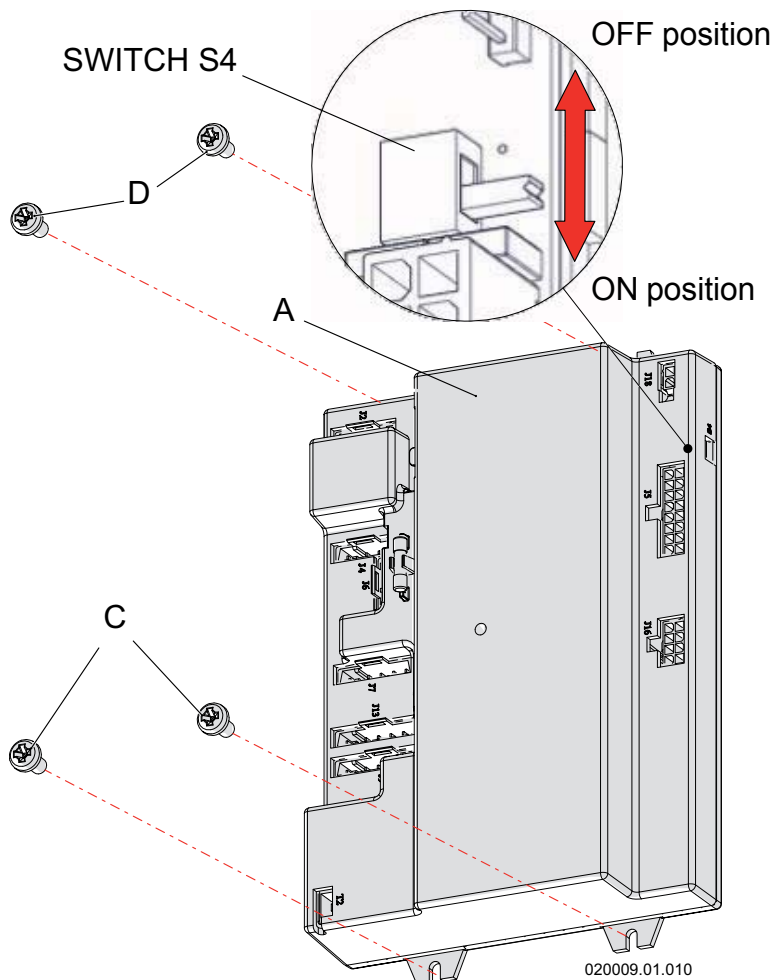

Figure 15-13 Control board "A" and Modbus board "B"
5. loosen screws "D" (see Figure 15-13) of the Burner 1 (Master) control board;
11. move "Switch S4" as per Figure 15-13, from OFF position to ON position;